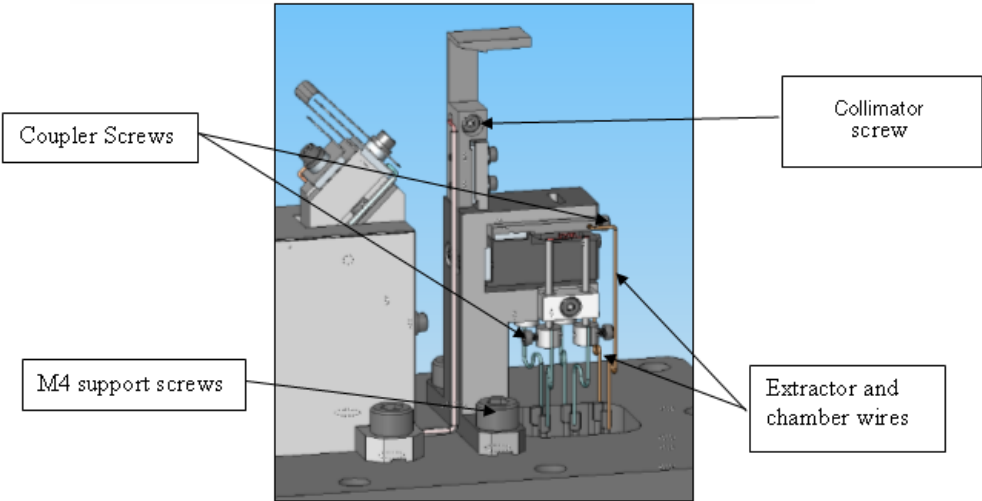

Figure 10: Ion Support Assembly
11. Use an M1.5 Allen wrench to unscrew the six coupler screws and the collimator screw (Figure 10: Ion Support Assembly).